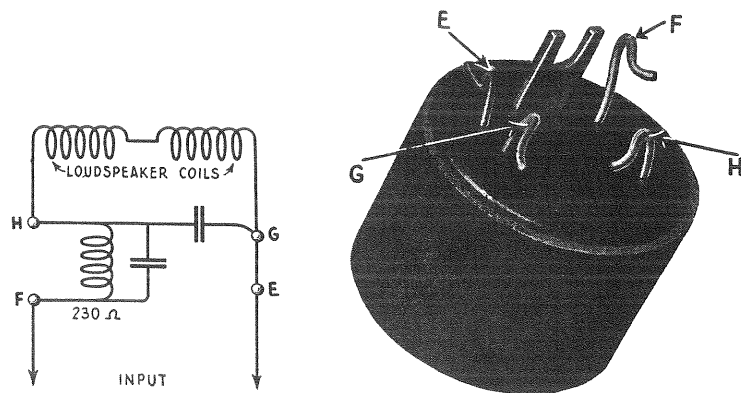

Figure 15—Schematic circuit of Loudspeaker 100B coils and filter and photo of filter unit
A defective filter unit, or a filter unit not properly connected in the circuit will cause distortion. Open magnet coils will cause no reproduction. The circuit diagram and correct connections are shown in Figure 15. The reference letters in the circuit diagram refer to the filter terminals shown in the small halftone illustration in Figure 15. These should correspond electrically, otherwise distorted or no reproduction will occur. A click test will indicate whether or not the unit is electrically O. K. The following continuity tests will indicate an electrical defect either in the coils or in the filter unit.
Unsolder all connections and refer to Figure 15.
- (g) Solder coil leads to filter unit as indicated in Figure 15. At this point it is good practice to test the mechanism on a receiver of good quality and make any further adjustments that may be necessary.